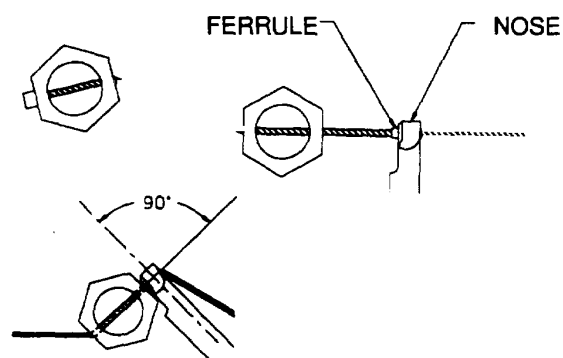

Figure 2-88. Correct Application of Safety Cable
d. Elongated Ferrules. Ferrules of extra length, having a radius at one end and a straight surface at the other end, may be used in applications which restrict the clearance for the installation tool nose to be placed in correct alignment with the fastener (such as low profile fastener heads, recess locations, or obstructions by structures or installed components). See figures 2-88 and 2-89.